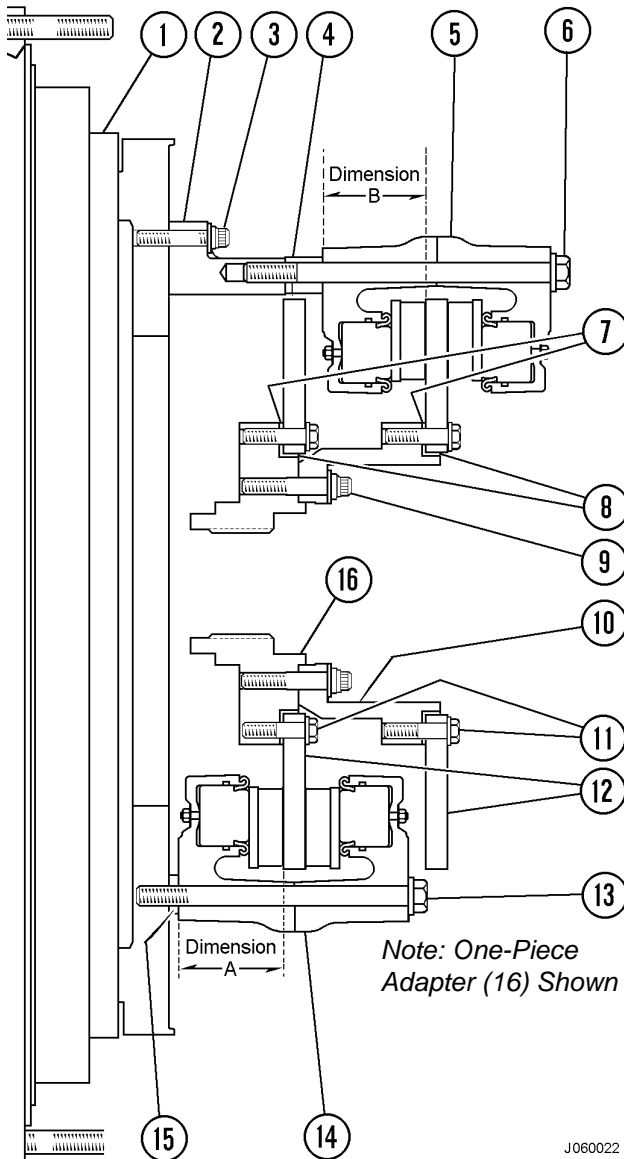

FIGURE 6-3A. REAR DISC BRAKE
### CALIPER, DISC, & PARKING BRAKE REMOVAL [For trucks equipped with one-piece adapter (16, Figure 6-3A)]
2. Removal of brake caliper is easier with linings removed. Remove retainer capscrews (1), lining retainers (2) and linings.
3. Remove two center caliper mount capscrews (6, Figure 6-3A) from outboard caliper and install two 0.875 in., 9 UNC x 14 in. studs.
4. Remove two remaining caliper mount capscrews and remove outer half of caliper (5).
5. Support outer disc (12) and remove disc mount capscrews (11) and washers. Slide disc from outboard adapter (10). Shims (7) will be found between disc and adapter. Remove bushing (8) and inner half of caliper (5). Remove park brake bracket (4).
6. Remove capscrews and flatwashers (9). Remove adapter (10).
7. Remove two center caliper mount capscrews (13) from inboard caliper and install two 0.875 in., 9 UNC x 14 in. studs.
8. Remove two remaining caliper mount capscrews and remove outer half of caliper (14).
9. Support inner disc (12) and remove capscrews and flatwashers (11). Remove inboard disc (12). Remove shims (7) and bushing (8) between disc and adapter.
10. Remove inner half of caliper (14) and spacer (15).
11. Remove capscrews and flatwashers (3) and remove adapter (2).